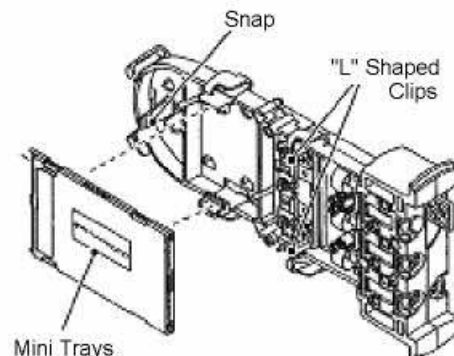

Figure 10a - Storing Fiber trays
15.01 The center section is provided with 'L' shaped supports and a snap to retain the bottom splice tray. Additional trays are secured by a hook and loop strap provided with the closure. See **Figures 10a and 10b**.